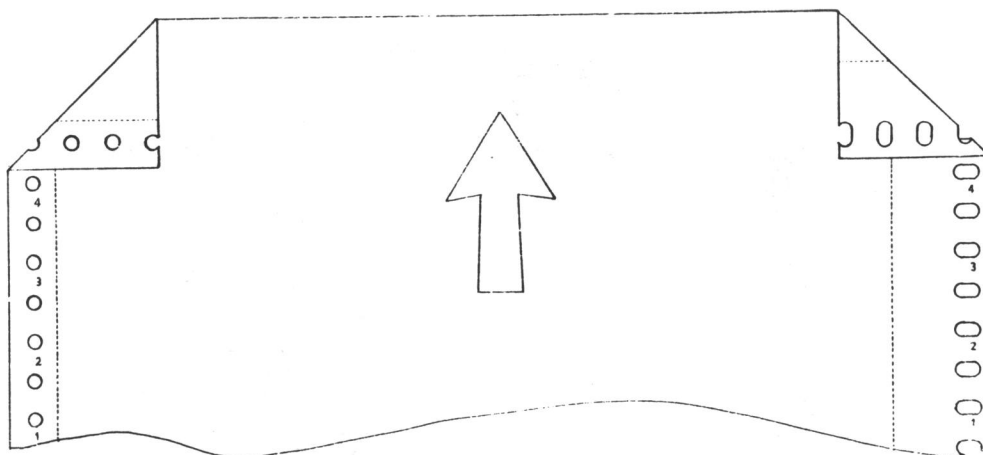

Figure 1-18
3. Fold the corners of the media as shown in Figure 1-18.